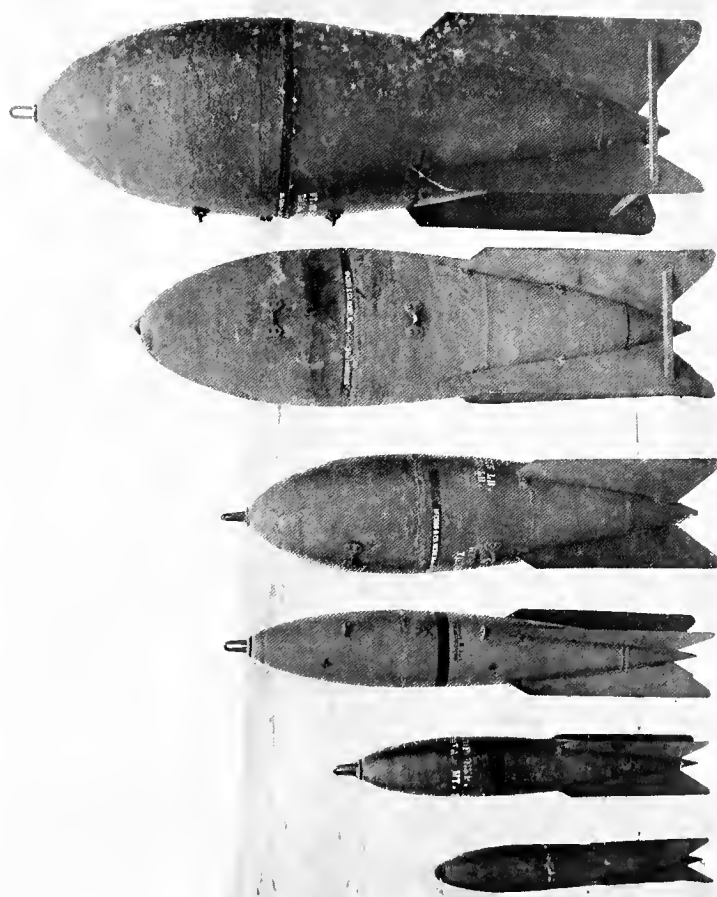

Figure 1. Group of Demolition Drop Bombs.
22. Which of the bombs illustrated in Figure 1 has the smallest time-lag? Why?